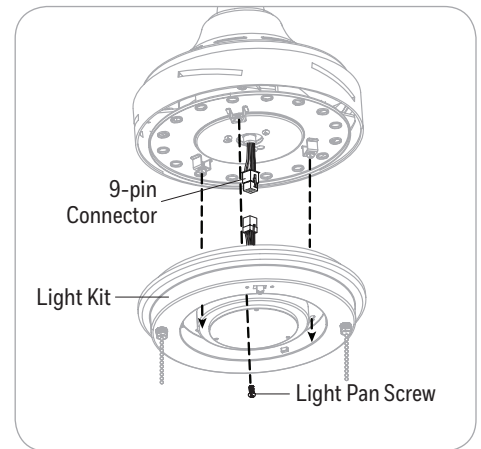

Figure 5.6
6. Remove one of the three light pan screws from the light pan and loosen the other two screws. Then, connect the 9-pin connector from the fan to the 9-pin connectors from the light kit. Align the screw holes of the light kit over the loosened light pan screws and turn in a clockwise direction. Replace previously removed light pan screw. Tighten all screws (Figure 5.6).